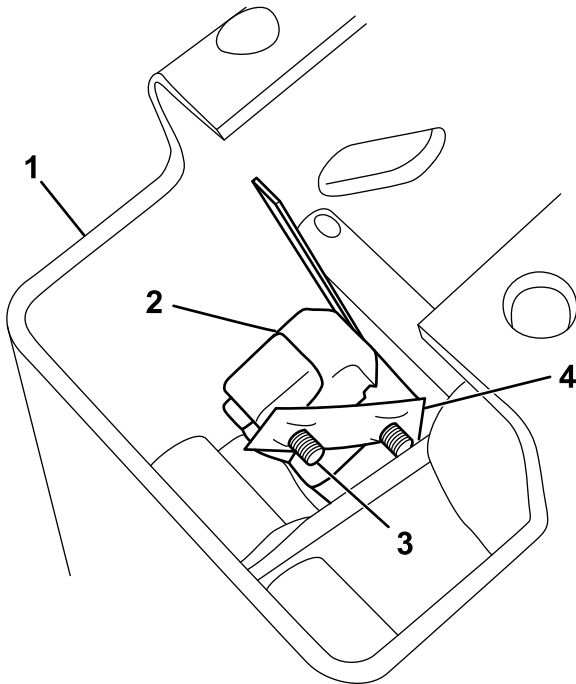

Figure 2
4. Assemble the switch to the right side of the shift assembly using 2 screws (#4 x 3/4 inch) and the speed nut (Figure 2).